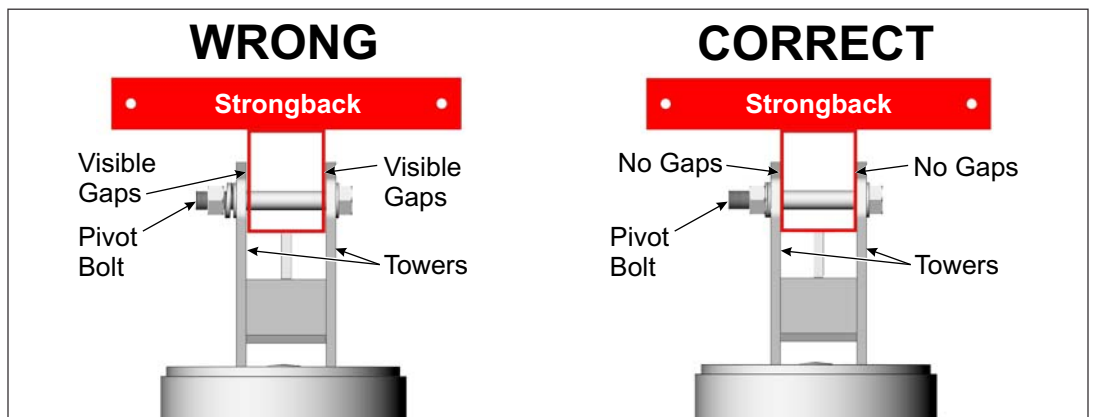

Figure 2-4: Tighten and Torque the Pivot Bolt
- G. Return and tighten the Pivot Bolt. The Pivot Bolt cannot be left loose - the Mounting Sleeve Vertical Towers must be firmly clamped to the sides of the Strongback eliminating any gaps between the Vertical Towers and the Strongback. **Torque to 200-250 ft.-lbs.** (See Figure 2-4)